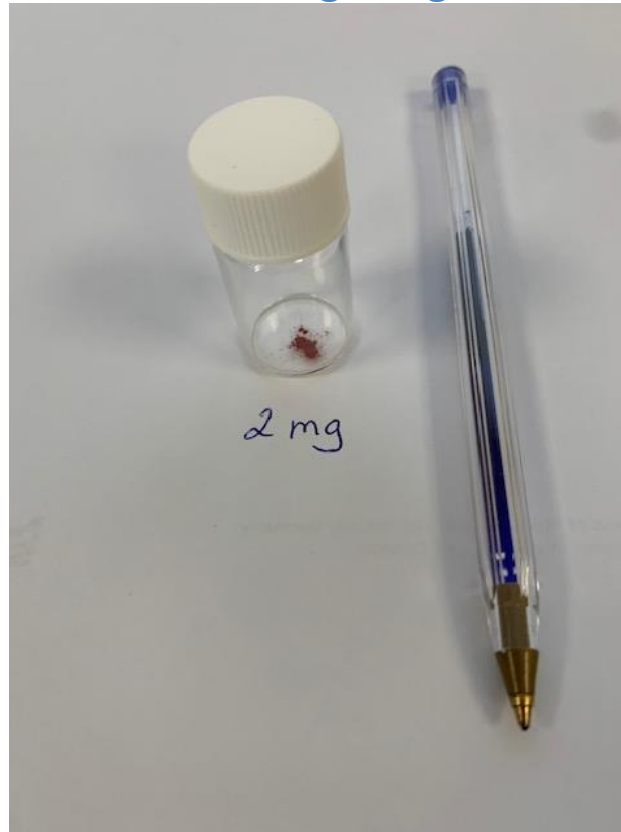

Figure 3
- Figure 3 is a photo of 2 mg of one of the tracers